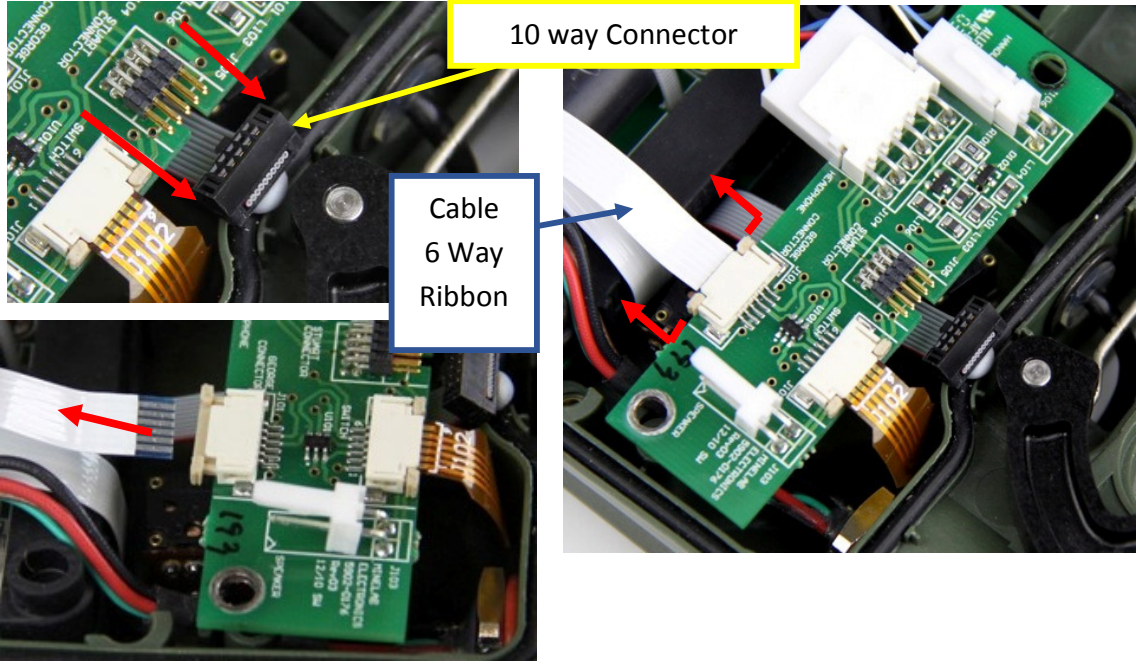

Figure 35: 10 Way Connector and 6 Way Ribbon Cable
- Disconnect the 10 way connector from the interface PCB. Figure 35.
- Slide out the locking bails on the 6 way ribbon connector and disconnect the cable 6 way ribbon. Figure 35.